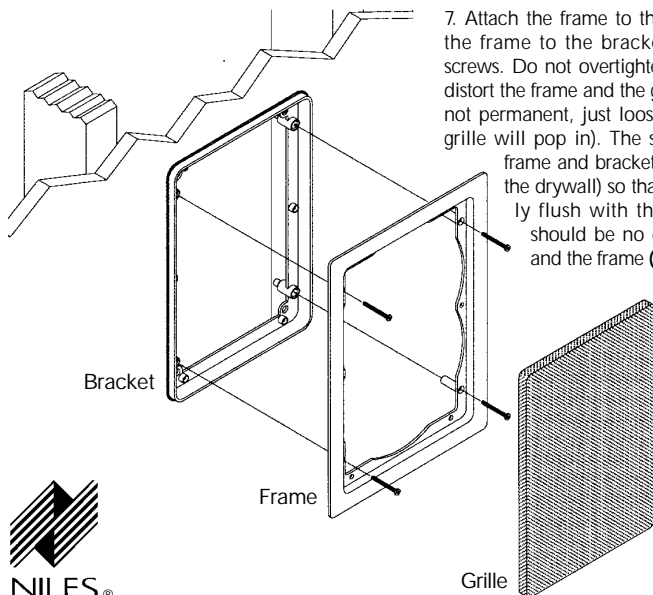

Figure 4
7. Attach the frame to the bracket by screwing the frame to the bracket using the supplied screws. Do not overtighten the screws, this will distort the frame and the grilles will not fit (this is not permanent, just loosen the screws and the grille will pop in). The screws should pull the frame and bracket together (sandwiching the drywall) so that the frame is absolutely flush with the wall surface. There should be no gaps between the wall and the frame (See Figure 4).